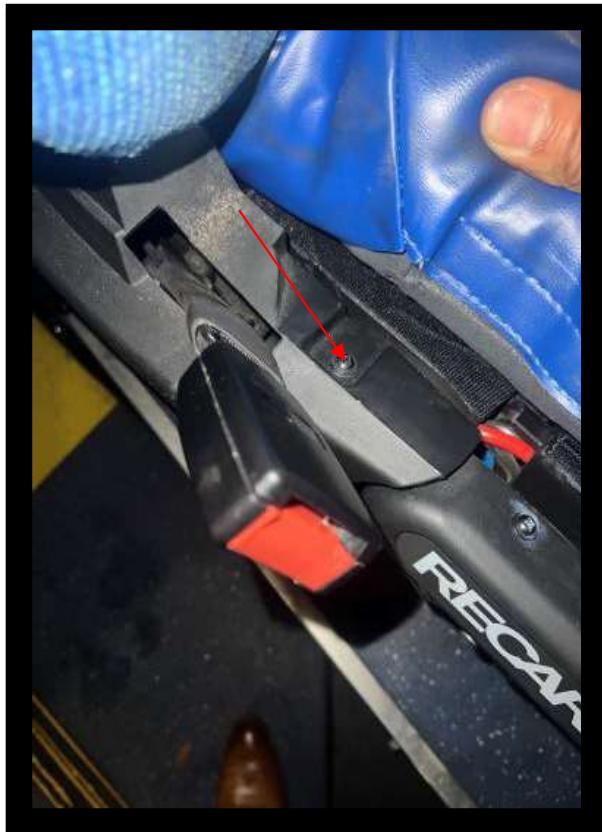

Figure 3: Side Trim Panel Screw Location
7.1.4 Remove the screw securing the side trim panel using a #2 Phillips screwdriver and move the trim panel aside to gain access to the seat belt buckle bolt (Figure 3).